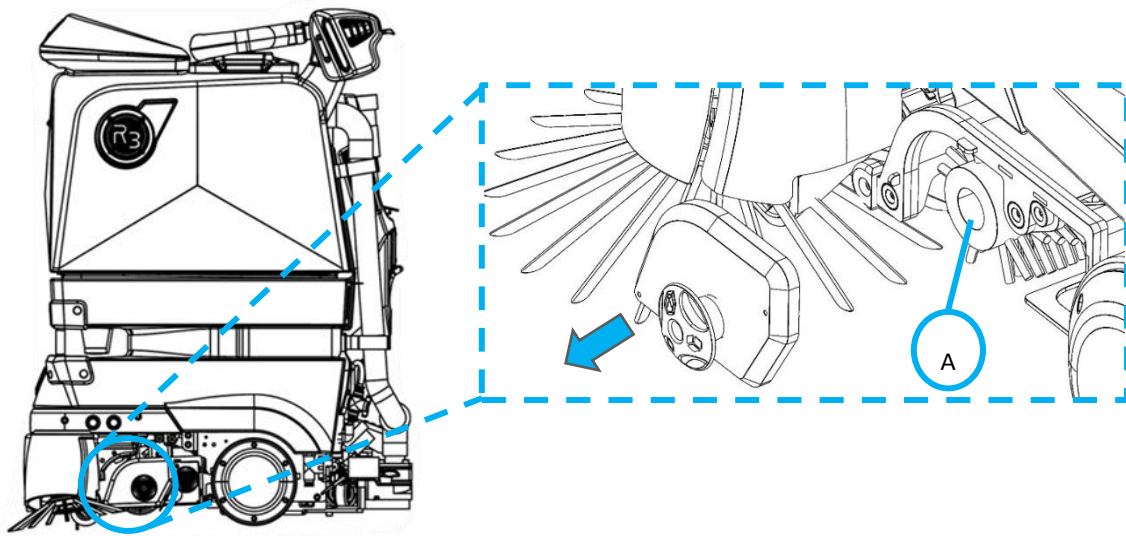

FIGURE 10-11
1. Pull the brush cover knob to release it from the magnetic catch **(A)** (Fig. 10-11).
2. Pull out the brush (Fig. 10-11) and clean under a stream of running water to remove impurities from the bristles.